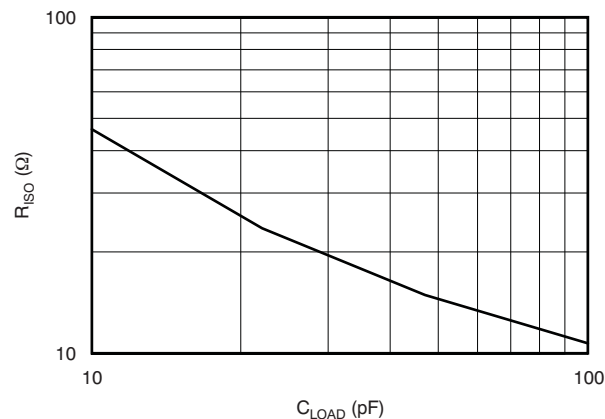

Figure 17.
The Typical Characteristics show the recommended R_{ISO} versus Capacitive Load performance (see Figure 17) and the resulting frequency response with a 1-k Ω load. Note that larger R_{ISO} values are required for lower capacitive loading. In this case, a design target of a maximally-flat frequency response was used. Lower values of R_{ISO} may be used if some peaking can be tolerated. Long PCB traces, unmatched cables, and connections to multiple devices can easily degrade the performance of the OPA653. Always consider this effect carefully, and add the recommended series resistor as close as possible to the OPA653 output pin (see the Board Layout section). With heavier loads (for example, the 100- Ω load presented in the test circuits used for testing the Typical Characteristics), the OPA653 is very robust; R_{ISO} can be as low as 10 Ω with capacitive loads less than 5 pF and continue to show a flat frequency response.
d) Connections to other wideband devices on the board may be made with short direct traces or through onboard transmission lines. For short connections, consider the trace and the input to the next device as a lumped capacitive load. Relatively wide traces (50 mils to 100 mils, or 1.27 cm to 2.54 cm) should be used. Estimate the total capacitive load and set R_{ISO} from the plot of *Recommended R_{ISO} vs Capacitive Load* (Figure 17). Low parasitic capacitive loads (less than 5 pF) may not need an R_{ISO} because the OPA653 is nominally compensated to operate with a 2-pF parasitic load.
Higher parasitic capacitive loads without an R_{ISO} are allowed as the signal gain increases (increasing the unloaded phase margin). If a long trace is required, and the 6-dB signal loss intrinsic to a doubly-terminated transmission line is acceptable, implement a matched impedance transmission line using microstrip or stripline techniques (consult an ECL design handbook for microstrip and stripline layout techniques). A 50- Ω environment is normally not necessary onboard, and in fact a higher impedance environment improves distortion as shown in the distortion versus load plots. With a characteristic board trace impedance defined based on board material and trace dimensions, a matching series resistor into the trace from the output of the OPA653 is used as well as a terminating shunt resistor at the input of the destination device. Remember also that the terminating impedance is the parallel combination of the shunt resistor and the input impedance of the destination device: this total effective impedance should be set to match the trace impedance. If the 6-dB attenuation of a doubly-terminated transmission line is unacceptable, a long trace can be series-terminated at the source end only. Treat the trace as a capacitive load in this case, and set the series resistor value as shown in the plot of *R_{ISO} vs Capacitive Load* (Figure 17). This configuration does not preserve signal integrity as